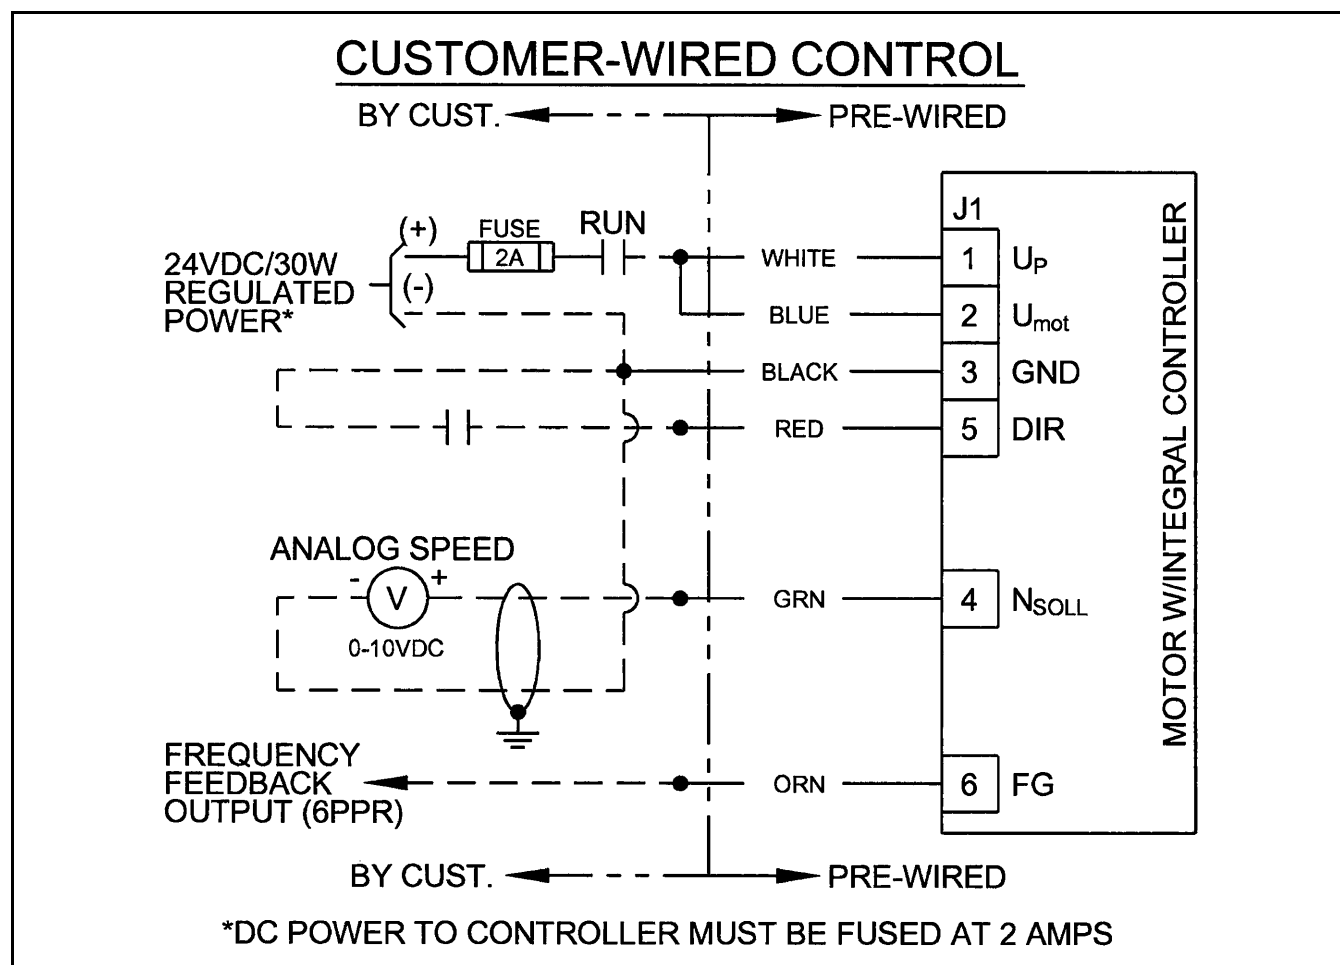
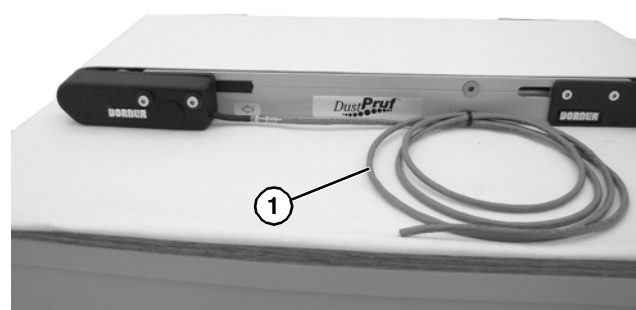

Figure 29
Figure 30
1. Locate lead wires (**Figure 30, item 1**) extending from iDrive cover. Determine wiring diagrams based on diagrams above (**Figure 29**).